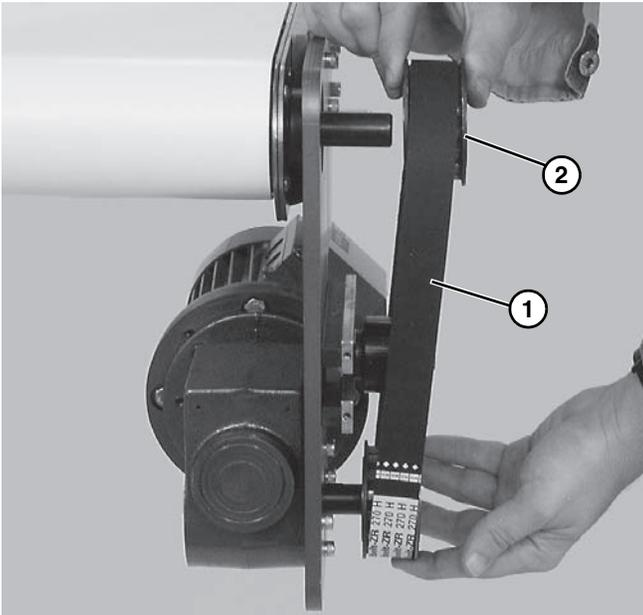

Figure 15
3. Remove timing belt (Figure 15, item 1).
If timing belt does not slide over pulley flange, loosen driven pulley taper-lock screws (Figure 15, item 2) and remove pulley with belt (Figure 15, item 1). For re-installation, see steps 7 thru 11 beginning on page 9.